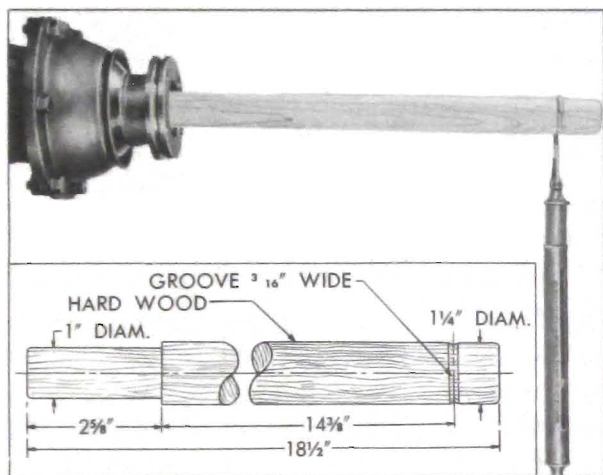

Figure 4-25—Checking Torque Ball Drag with Club.
8. Prepare a hardwood club for adjusting torque ball as shown in figure 4-25.
10. Attach spring scale to club at groove located $14\frac{3}{8}$ " from end of universal joint and test pull required to move torque ball when all bolts are tight. See figure 4-25. A drag of 15 to 25 pounds should be obtained. If torque ball is too tight or too loose, loosen bolts and repeat the centering and tightening operation, then re-check drag with club and spring scale.